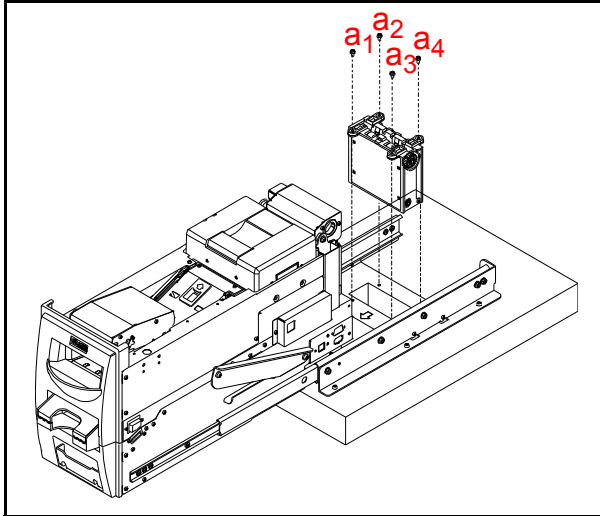

Figure 9 Top Side Mounting
When the top side mounting is preferred, attach the Cash Box Transport Path by the four (4) M4 Screws (Figure 9 **a₁** to **a₄**) from the top side of the Cash Box ceiling.